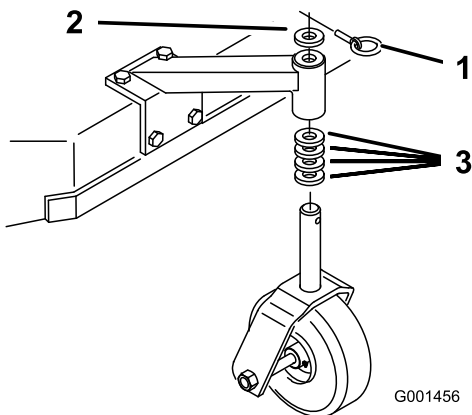

Figure 20
- Using the Height-of-Cut Chart, adjust the caster spacers to match with the axle hole selected (Figure 20).
- Remove the latch pin, slide the caster from the support, and change the spacers (Figure 20).
- Install the caster in the support and insert the latch pin (Figure 20).